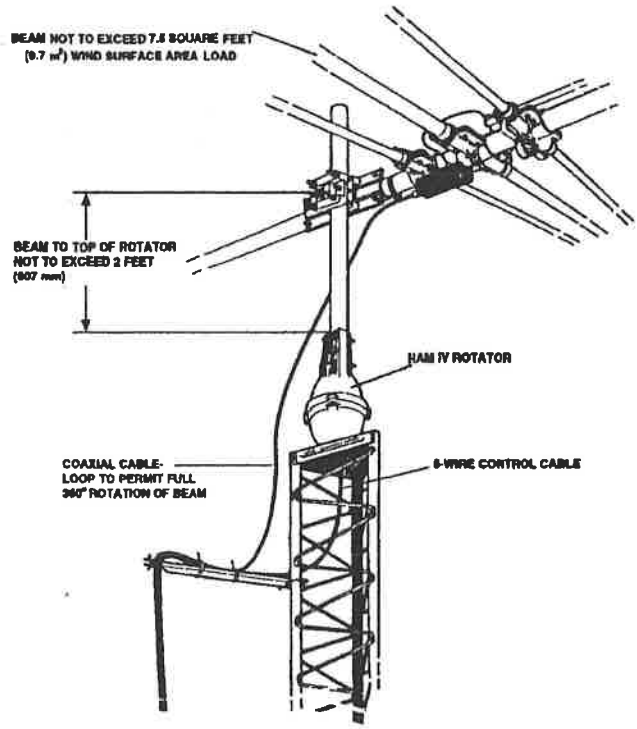
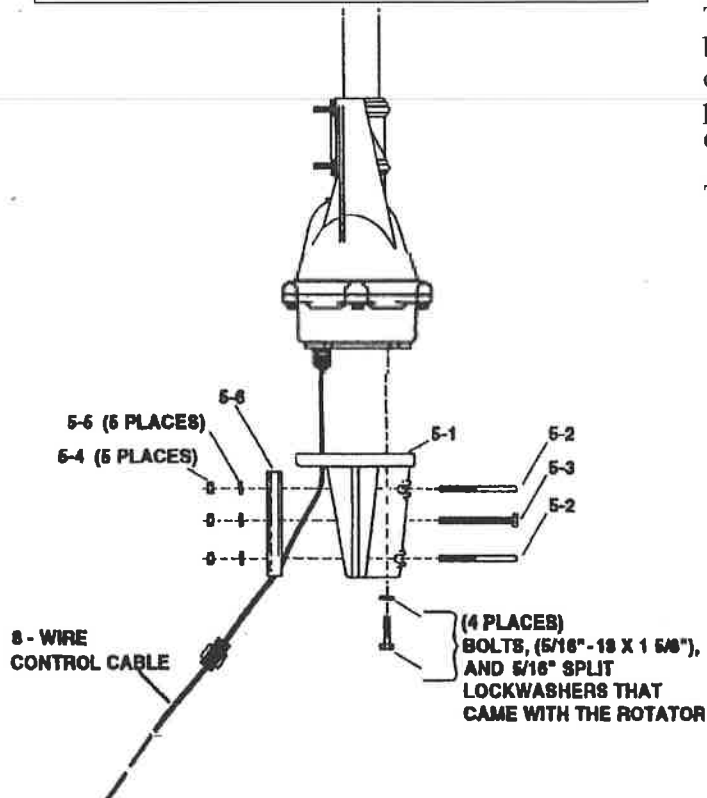

Figure 5
Figure 7
| B. Outside Tower or mast Mounted as per Fig. 5 or 6 | 7.5 sq. ft. (0.7 sq. m) of wind surface area |
When no mounted within a tower with a thrust bearing, as shown in Figures 5 and 6, the rotator must be DEBATED.
2. An "outside" Tower Mount (see Figure 5) is optional. The rotator is not well protected but the installation is simpler. With an "Outside" Tower Mount, the rotator must be derated to 7.5 square feet.
Referring to Figures 5, 6, and 7, an outside tower or pole mount is made in the same manner except that the rotator is fastened by four (4) bolts only (not six) to the Lower Mast Support, PN 51467 10. Since the eccentricity of the rotator turning in reference to the tower is no longer important, the shimming procedure is not necessary. The four (4) bolts must be torqued to the same specification and the 8-wire cable securely fastened. The lower mast should be pinned with the 5/16"-18 x 4" bolt as shown in Figure 7.
The stock HAM W is intended to mount on the base plate inside of the tower. However, in some instances, outside tower or mast mounting is desired as per Figures 5 and 6. This kit, P/N 5146710 contains a heavy-duty lower mast support and the necessary hardware to facilitate mounting the HAM IV on top of a tower stub or mast.